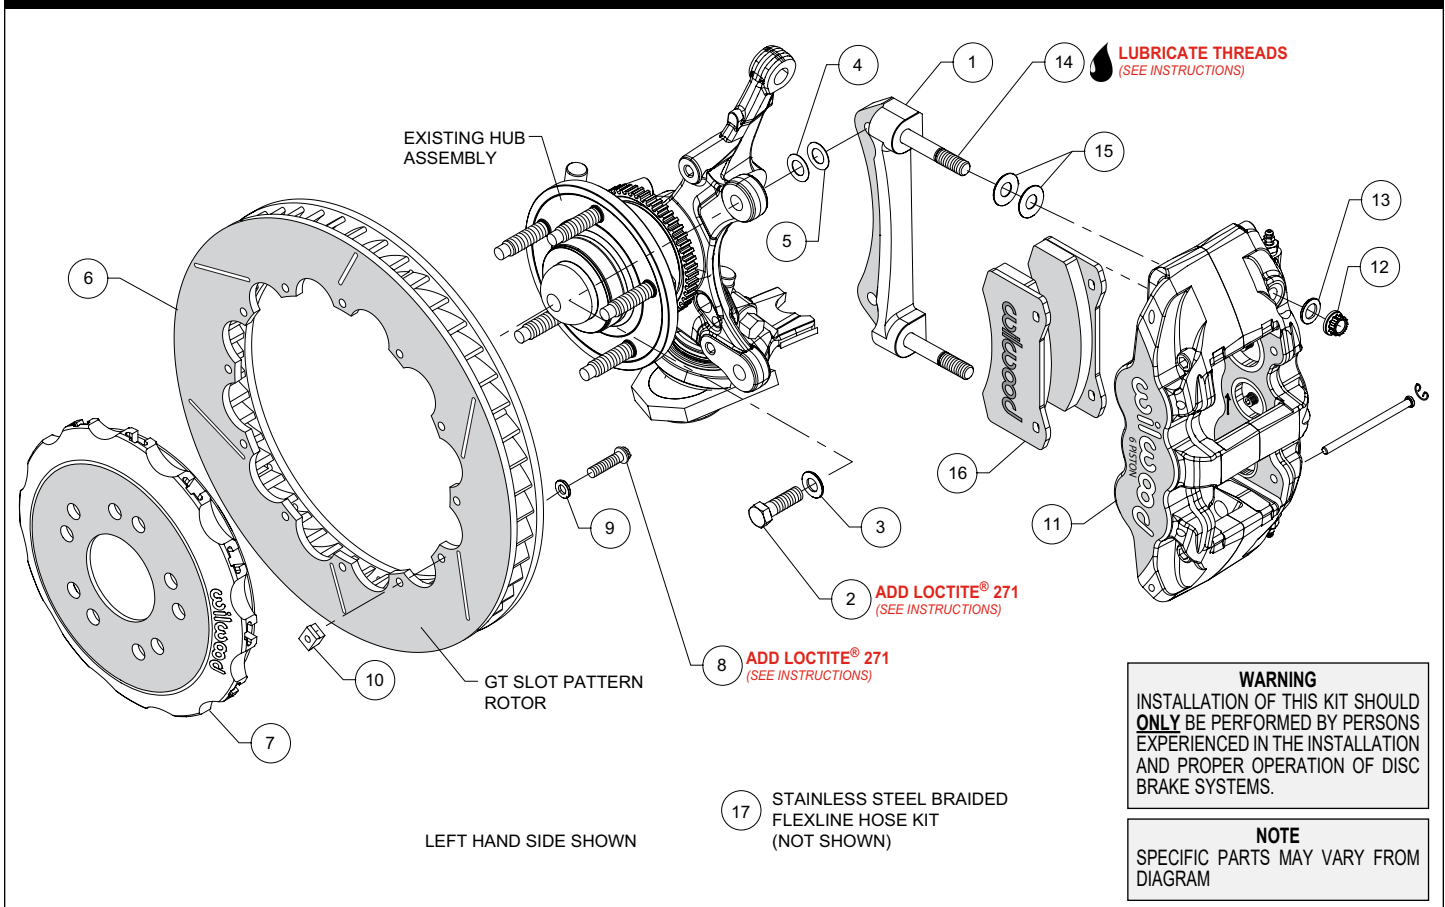
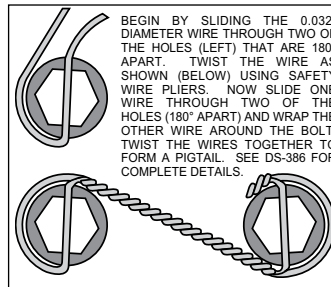

Figure 1. Typical Installation Configuration
Figure 4. Safety Wire Diagram
NOTE: Numbers in parenthesis refer to the parts list and Figure 1 on the preceding pages.
- The caliper mount bracket (1) should initially be installed with clean, dry threads on the mounting bolts. Orient the bracket, as shown in Figure 1 and Photo 1, and install using bolts (2) and washers (3). Initially place one .033" thick shim (4) on each bolt between the bracket and upright, Figure 1. Temporarily tighten the mounting bolts. **NOTE:** *The bracket must fit squarely against the mount bosses on the upright.* Inspect for interference from casting irregularities, machining ridges, burrs, etc. Later, after the caliper alignment has been checked, the mount bolts will be secured using red *Loctite*® 271.
- Orient the rotor (6) and the hat (7) as shown in Figure 1 and Photo 2. Attach rotor to hat using bolts (8), washers (9), and t-nuts (10), Figure 1. Follow additional instructions included with the bolt kit. Using an alternating sequence, apply red *Loctite*® 271 to the threads, and torque to 120 **in-lbs**. For an added measure of security, the bolts may be safety wired using standard 0.032 inch diameter stainless steel safety wire as shown in Figure 4. Refer to Wilwood's data sheet DS-386 (available at www.wilwood.com/Pdf/DataSheets/ds386.pdf) for complete safety wire installation instructions.
- NOTE:** *This kit contains distinct right and left hand calipers that must be mounted in a specific direction, as described below.* Lubricate the caliper mounting studs (14) with lightweight oil. Initially place two .030" thick shims (15) on each stud between the caliper and the bracket, as shown in Figure 1 and Photo 3. Mount the caliper (11) onto the bracket (1) using lock nuts (12) and washers (13), Figure 1. Temporarily tighten the lock nuts. Ensure that the caliper is mounted so the largest pistons are at the rotor exit end of the caliper, in relation to the direction of the
- Remove the two pad retaining pins from the caliper (11) by carefully popping out the pin retaining clips and sliding out the pins. Insert the brake pads (16) into the caliper from the bottom, Figure 1 and Photo 5. With the friction material facing the rotor, secure the brake pads in place with the pad retaining pins and clips, Photo 6. Reinstall the caliper onto the caliper mounting bracket and temporarily tighten the lock nuts. Check that the top of the brake pad is flush with the outside diameter of the rotor, Photo 7. If not, adjust by adding or subtracting shims (15) between the caliper and the bracket. After the caliper pad height is set, torque the caliper lock nuts (12) to 47 ft-lb.
•**NOTE:** OEM rubber brake hoses generally cannot be adapted to Wilwood calipers. The caliper inlet fitting is a 1/8-27 NPT (use PTFE tape on pipe threads of adapter fitting for proper sealing to caliper). Install Wilwood's stainless steel braided flexline hose kit (17), P/N 220-9111 included with this kit. **Carefully route hoses to prevent contact with moving suspension, brake or wheel components.** **NOTE:** Wilwood hose kits are designed for use in many different vehicle applications and it is the installer's responsibility to properly route and ensure adequate clearance and retention for brake hose components.